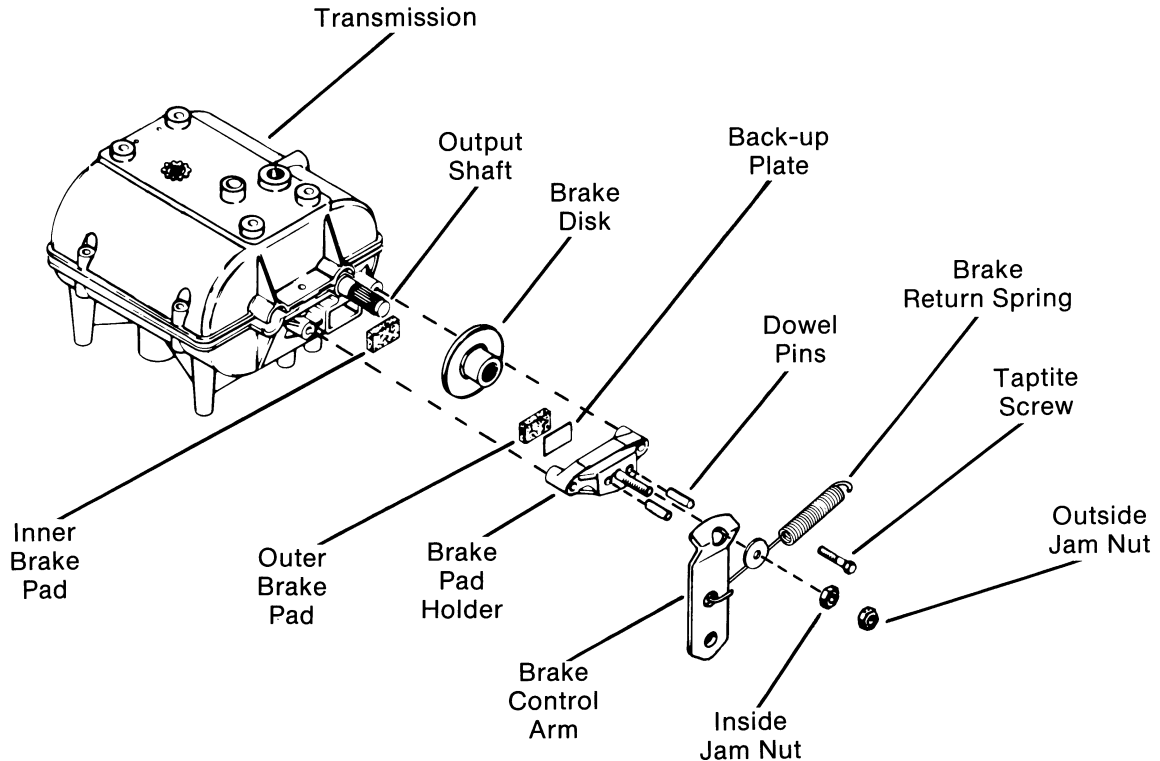

FIG. 22
- H. Holding inside jam nut at transmission, loosen outside jam nut on brake pad holder. (Fig. 22)
- A. Raise seat and detach brake, return spring from top hole in transmission brake control arm. (Fig. 22)
- B. Remove two taptite screws securing brake pad holder to transmission case. (Fig. 22)
- C. Brake pad holder is now loose and outer brake pad can be removed. NOTE: Brake pad back-up plate may fall out at this time. (Fig. 22) Remember to replace plate when reassembling.
- D. Pull brake disk off output shaft, inner brake pad will fall out of transmission case. (Fig. 22)
8. Detach brake return spring from top hole in transmission brake control arm. (Fig. 22)